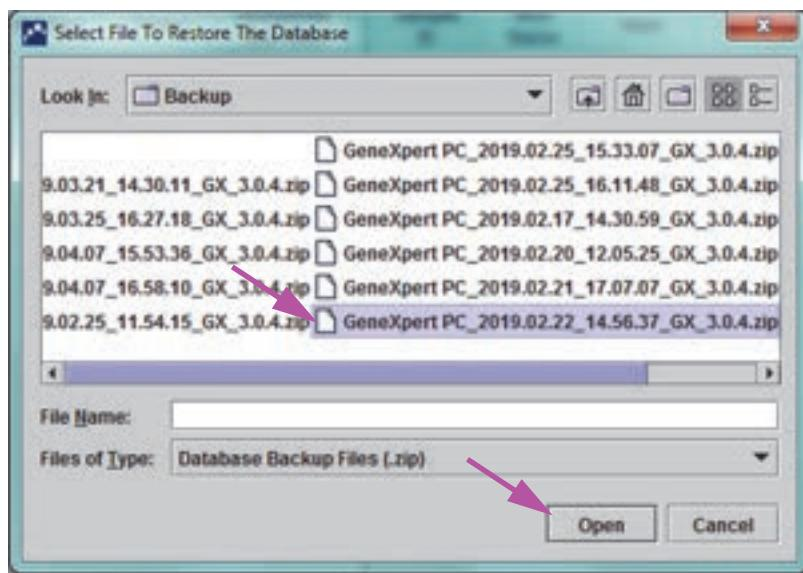

Figure 5-80. Select File to Restore the Database Screen, with Filename
Click **Cancel** to not back up the database and proceed directly to the Select File To Restore the Database screen (see Figure 5-80).
6. Click **OK**. The Select File to Restore the Database screen appears. See Figure 5-80.